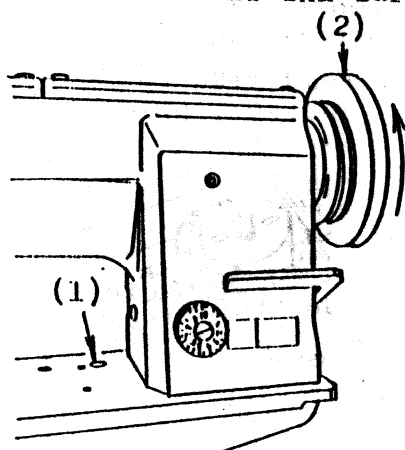

Fig.19
2. Pushing the button(1), turn the machine pulley(2) slowly to the opposite direction as shown Fig. 19, then the top of the button(1) is caught in the slot of the cam and pulley rotation is become heavily.